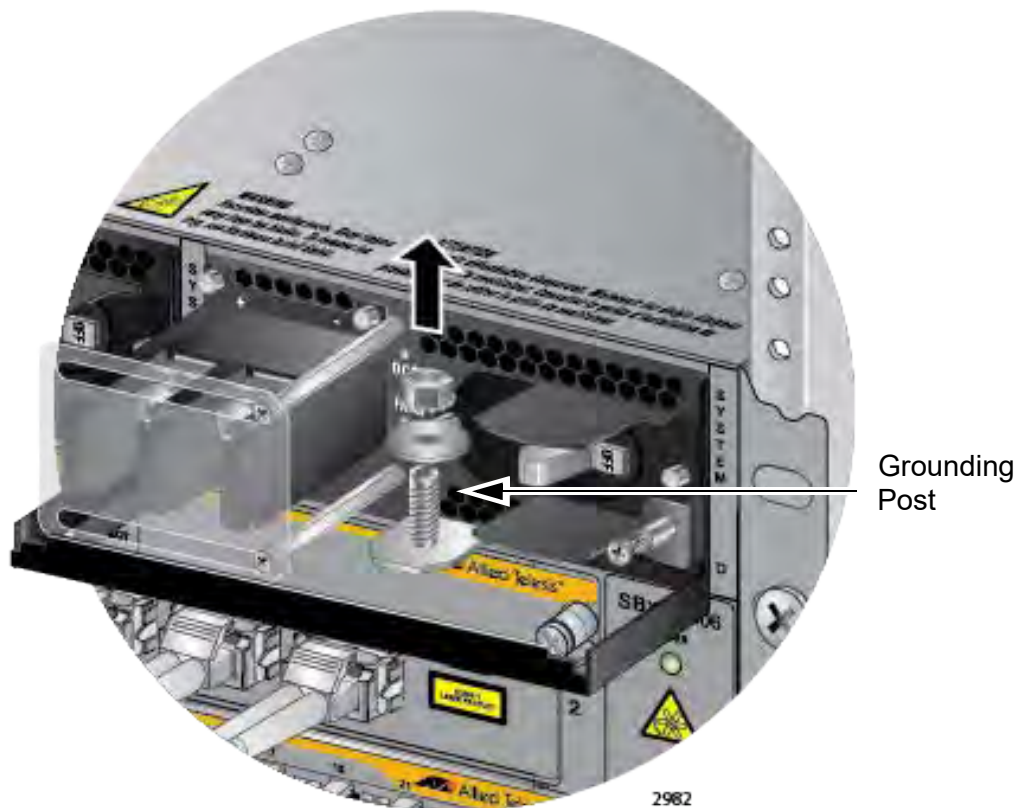

Figure 129. Removing the Nut and Washer from the Grounding Post
3. Use an 8 mm wrench to remove the grounding post nut and washer, shown in Figure 129, from the power supply.
2. Use an 8 mm wrench to remove the grounding post nut and washer, shown in Figure 129 on page 208, from the grounding post on the power supply.